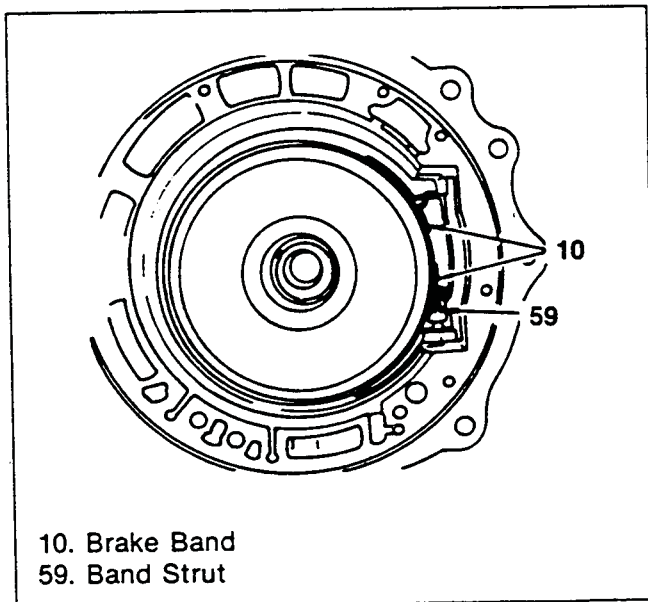

Figure 270. Brake Band Installation
Brake Band (Figure 270)
3. Install the brake band in the case so it will fit with the anchor end pin and the servo piston (figure 270).